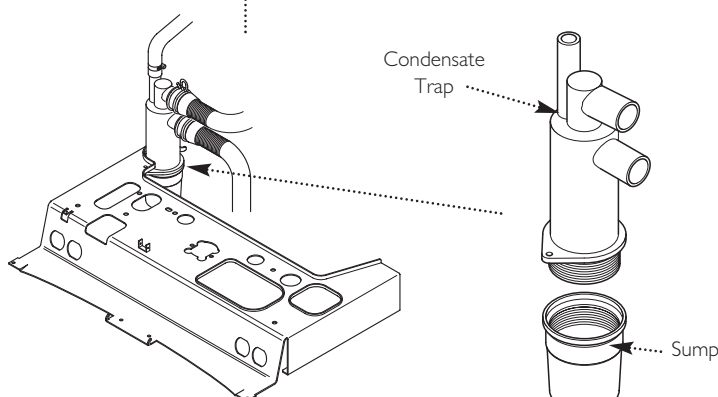

Fig. 62
5. Unscrew the sump from the bottom of the condensate trap assembly (Fig. 62) and remove any deposits from the sump and trap. Clean as necessary and replace the sump